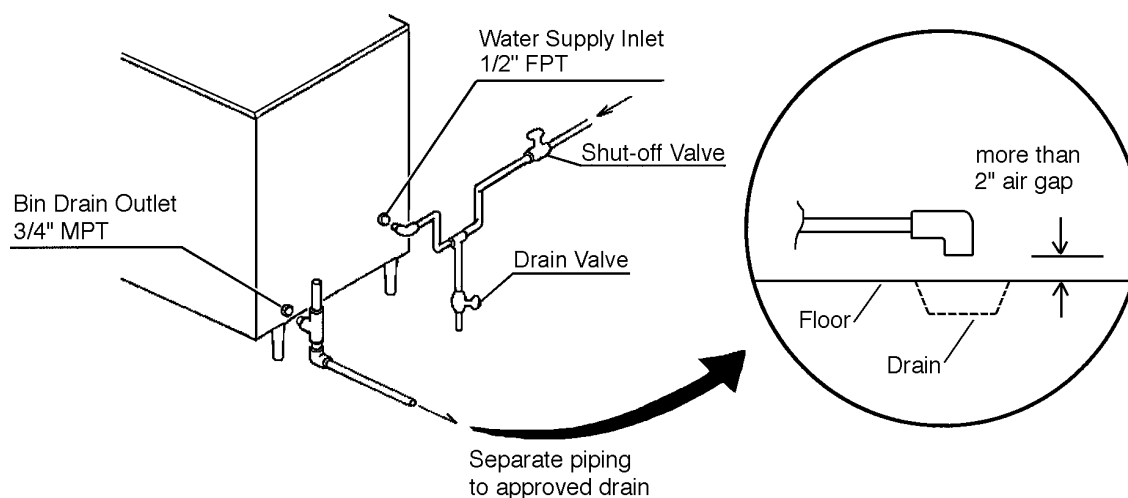

Fig. 5
6. WATER SUPPLY AND DRAIN CONNECTIONS - See Fig. 5